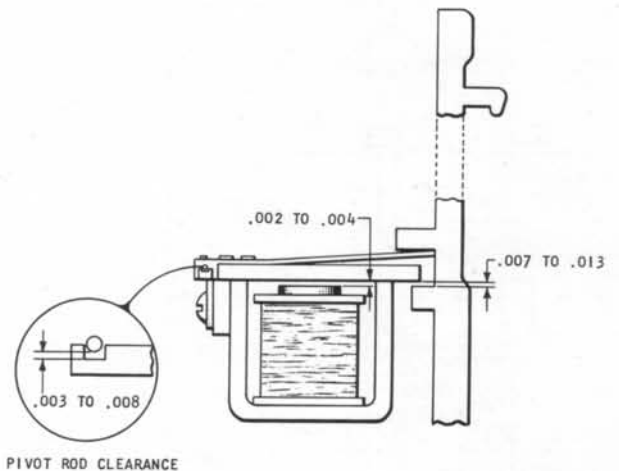

Figure 49. Punch Magnet Adjustments
### Punch Magnet Yoke Assembly Adjustments (Figure 49)
3. Check for .007" to .013" clearance between the lower side of the armature and the latch at both the column 1 and column 80 ends of the unit (Figure 49).
- b. Loosen the magnet unit adjusting lock nuts and adjust the screw for .007" to .013" clearance between the armature and the latch (Figure 49). The magnet unit locating screws hold the magnet unit against the adjusting screws.
- a. Check for .007" to .013" latch overthrow (Figure 49).